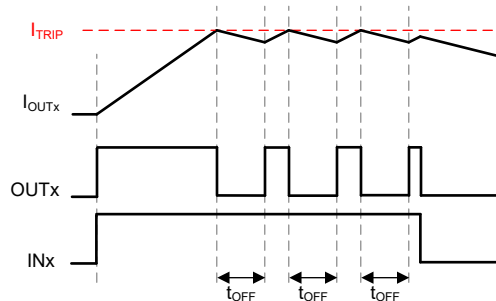

Figure 6-4. Inductive Load Connected to ground, fixed off-time current chopping
- For the scenario shown in Figure 6-4, with $INx = 1$, the low-side MOSFET is turned on for t_{OFF} duration after I_{OUT} exceeds I_{TRIP} . After t_{OFF} , the high side MOSFET is again turned on till I_{OUT} exceeds I_{TRIP} again.